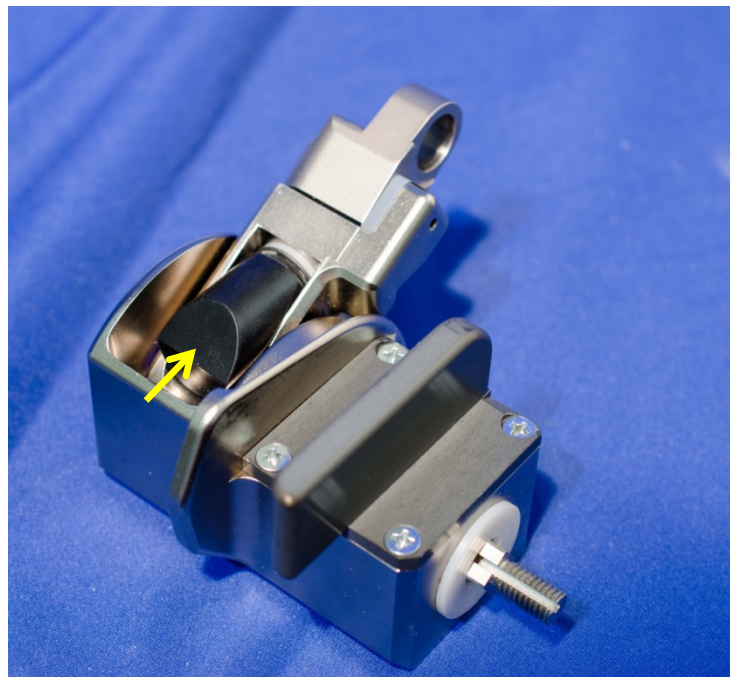

Figure 7-11. Install forward ROM buffer
- 7.2.2.5 Install the Forward ROM Buffer (472-3816) (Figure 7-11).